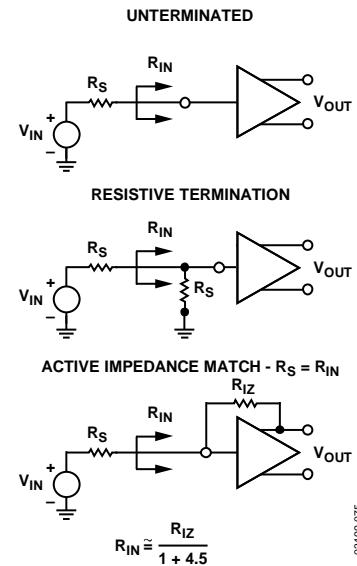
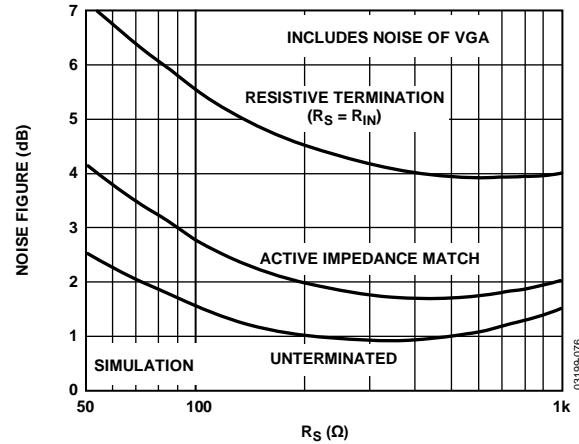
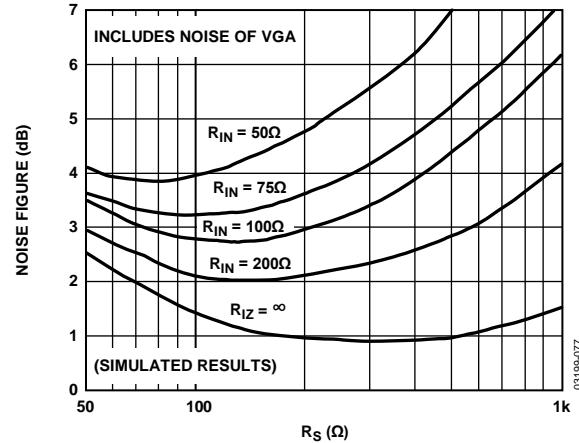

Figure 75. Input Configurations
Figure 76. Noise Figure vs.  $R_S$  for Resistive, Active Match, and Unterminated Inputs
Figure 77. Noise Figure vs.  $R_S$  for Various Fixed Values of  $R_{IN}$ , Actively Matched
The input-referred voltage noise sets an important limit on system performance. The short-circuit input voltage noise of the LNA is  $0.74\text{ nV}/\sqrt{\text{Hz}}$  or  $0.82\text{ nV}/\sqrt{\text{Hz}}$  (at maximum gain), including the VGA noise. The open circuit, current noise is  $2.5\text{ pA}/\sqrt{\text{Hz}}$ . These measurements, taken without a feedback resistor, provide the basis for calculating the input noise and noise figure performance of the configurations in Figure 75. Figure 76 and Figure 77 show simulations extracted from these results and the 4.1 dB noise figure (NF) measurement with the input actively matched to a  $50\text{ }\Omega$  source. Unterminated ( $R_{IZ} = \infty$ ) operation exhibits the lowest equivalent input noise and noise figure. Figure 76 shows the noise figure vs. source resistance, rising at low  $R_S$ , where the LNA voltage noise is large compared to the source noise, and again at high  $R_S$  due to current noise. The VGA input-referred voltage noise of  $2.7\text{ nV}/\sqrt{\text{Hz}}$  is included in all of the curves.
The primary purpose of input impedance matching is to improve the system transient response. With resistive termination, the input noise increases due to the thermal noise of the matching resistor and the increased contribution of the LNA input voltage noise generator. With active impedance matching, however, the contributions of both are smaller than they would be for resistive termination by a factor of  $1/(1 + \text{LNA Gain})$ . Figure 76 shows their relative NF performance. In this graph, the input impedance is swept with  $R_s$  to preserve the match at each point. The noise figures for a source impedance of  $50\ \Omega$  are 7.1 dB, 4.1 dB, and 2.5 dB, respectively, for the resistive, active, and unterminated configurations. The noise figures for  $200\ \Omega$  are 4.6 dB, 2.0 dB, and 1.0 dB, respectively.
Figure 77 is a plot of NF vs.  $R_s$  for various values of  $R_{IN}$ , which is helpful for design purposes. The plateau in the NF for actively matched inputs mitigates source impedance variations. For comparison purposes, a preamp with a gain of 19 dB and noise spectral density of  $1.0\ \text{nV}/\sqrt{\text{Hz}}$ , combined with a VGA with  $3.75\ \text{nV}/\sqrt{\text{Hz}}$ , yields a noise figure degradation of approximately 1.5 dB (for most input impedances), significantly worse than the AD8331/AD8332/AD8334 performance.